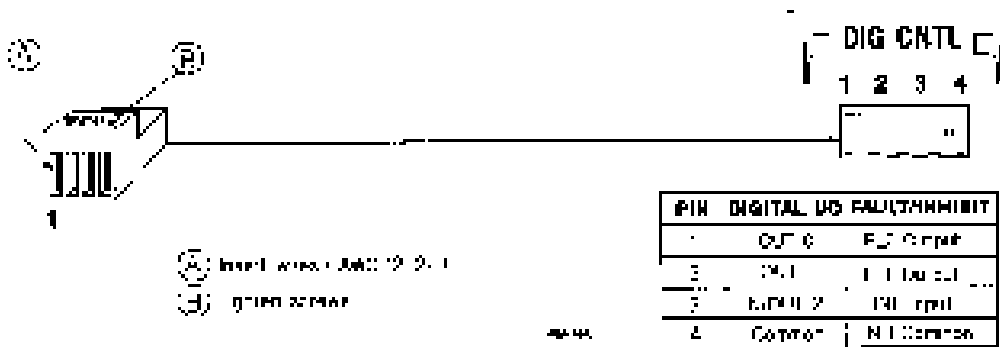
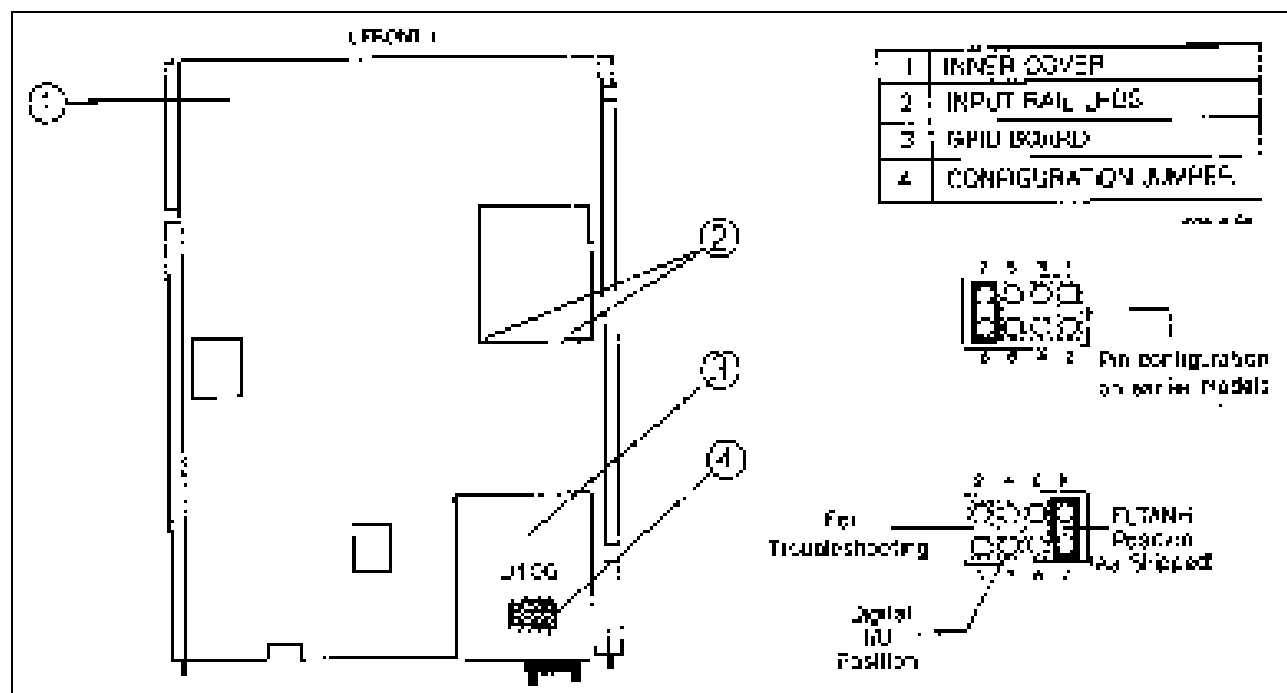
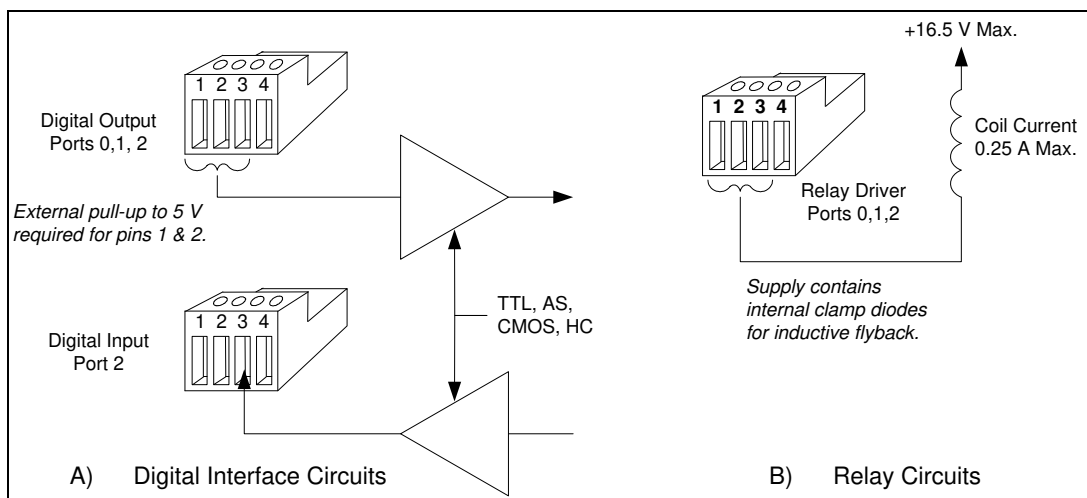

Figure D-1. Digital Port Connector
Figure D-4. Digital Port Configuration Jumper
Figure D-5. Digital I/O Port Applications
A 4-pin connector and a quick-disconnect mating plug are provided for digital input and output signals (see Figure D-1 for wiring connections, and Table 1-5 in Chapter 1 for electrical characteristics). This digital port can be configured to provide either Fault/Inhibit or Digital I/O functions.
As shipped from the factory, the digital port is configured for FLT/INH operation. You can change the configuration of the port to operate as a general-purpose digital input/output port to control your custom circuitry as shown in Figure D-4. To change the port configuration, you must move a jumper on the GPIB board.
5. Refer to Figure D-4 and use needle-nose pliers to move the jumper to the Digital I/O position.
The digital port can be configured (see Figure D-4) to provide a digital input/output to be used with custom digital interface circuits or relay circuits. Some examples are shown Figure D-5. See Figure D-1 for the pin assignments of the mating plug and Table 1-5 for the electrical characteristics of the port. See **DIG:DATA[:VAL]** in “Chapter 3 - Language Dictionary” of the Programming Guide for information on programming the port. The digital port pins are as follows:
The digital port can be configured to provide relay control outputs for the Keysight 59510A or 59511A Relay Accessory. Refer to Figure D-1 for the pin assignments of the mating plug.